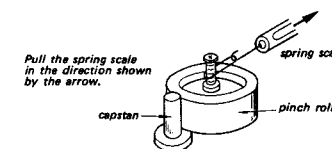
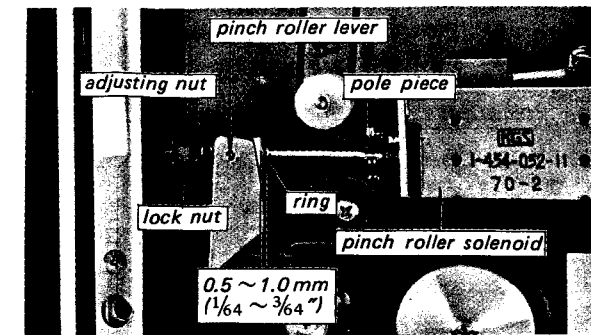

Fig. 3-1-6. Pinch roller pressure adjustment
Fig. 3-1-7. Pinch roller pressure adjustment
3-1-4. Pinch Roller Pressure Adjustment (See Fig. 3-1-6 and Fig. 3-1-7.)
- (1) Remove the reel panel referring to "Panel Removal" on page 14.
- (2) Place the unit in the STOP mode.
- (3) Push the pole piece of the solenoid into its housing by the hand, and make sure that the clearance between the ring and the pinch roller lever is 0.5 ~ 1 mm (1/64 ~ 3/64").
- (4) Make a loop with a piece of string and attach the spring scale to the pinch roller shaft with the loop of string. See Fig. 3-1-6.
- (5) Hold the actuator so that the SHUT-OFF switch is activated (a rubber band or piece of masking tape will hold the actuator as though tape were threaded on the unit).
- (6) Place the unit in the PLAY mode.
- (7) Pull the scale horizontally in the direction shown by the arrow. The capstan shaft, pinch roller and the scale should be in a line.
- (8) Check a scale reading when the pinch roller just leaves the capstan shaft.
- (9) Adjust the adjusting nut so that a scale reading is between 1 kg and 1.4 kg (2.2 lb and 3.1 lb).
- (10) Make sure that the solenoid operates normally when a mode is changed from the PLAY to the STOP and vice versa several times. If the tape slips, readjust the above steps.
- (11) Lock the adjusting nut with the lock nut.